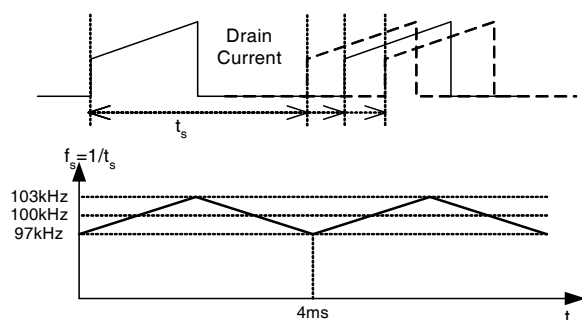

Figure 9. Frequency Modulation Waveform
7. Frequency Modulation: Modulating the switching frequency of a switched power supply can reduce EMI. Frequency modulation can reduce EMI by spreading the energy over a wider frequency range than the bandwidth measured by the EMI test equipment. The amount of EMI reduction is directly related to the depth of the reference frequency. As can be seen in Figure 9, the frequency changes from 97KHz to 103KHz in 4ms for the 700V FPS series. Frequency modulation allows the use of a cost effective inductor instead of an AC input mode choke to satisfy the requirements of world wide EMI limits.